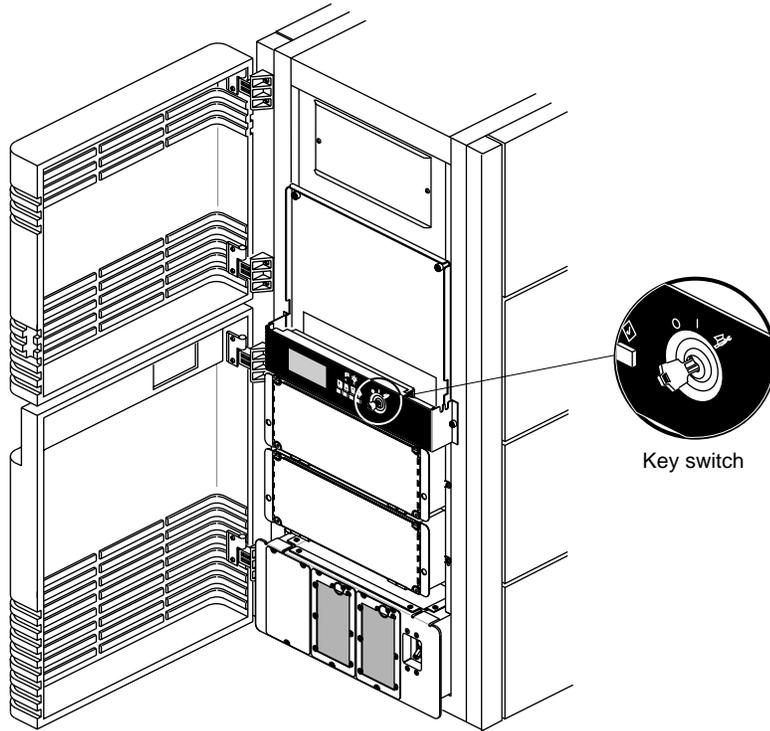

Figure 3-12 System Controller Key Switch
3. Insert the system key into the key switch, located to the right of the System Controller’s display. Turn the key switch to the On position (see Figure 3-12).